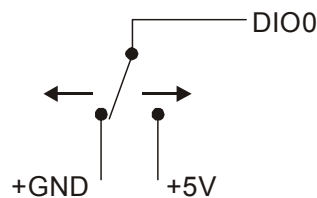

Figure 3-8. Digital connection DIO0 detecting the state of a switch
You can use the digital I/O terminals to detect the state of any TTL level input. In Figure 3-8, if the switch is set to the +5 V input, the DIO0 reads TRUE (1). If the switch is moved to GND, the DIO0 reads FALSE.